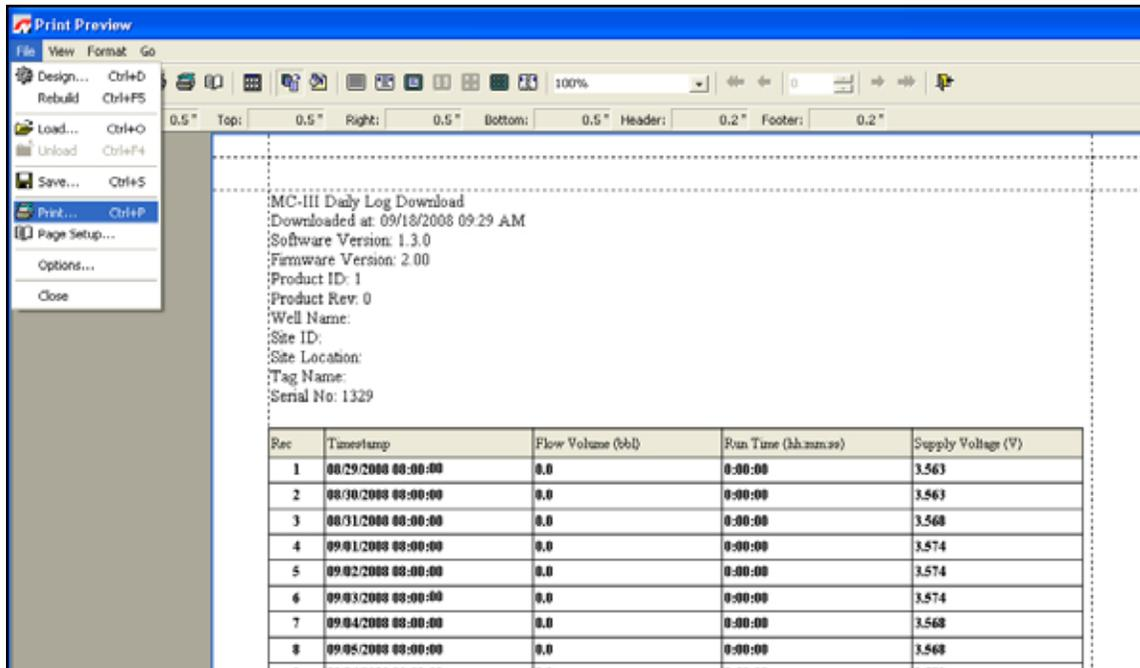
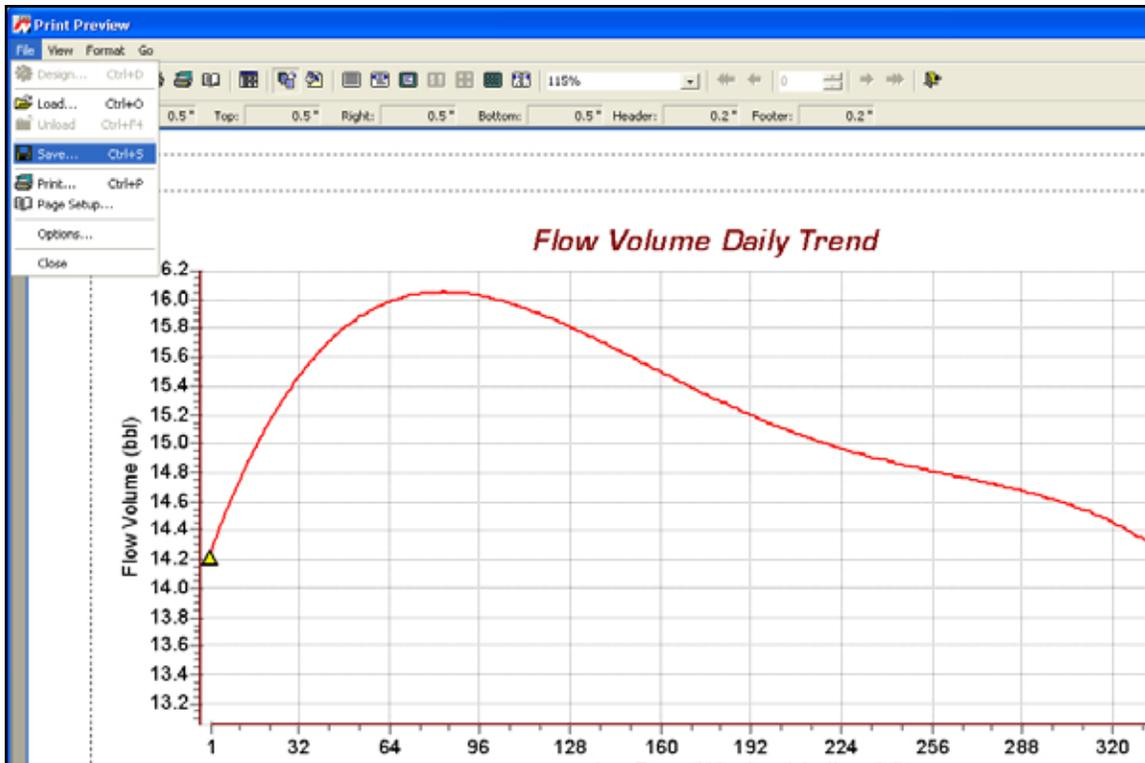
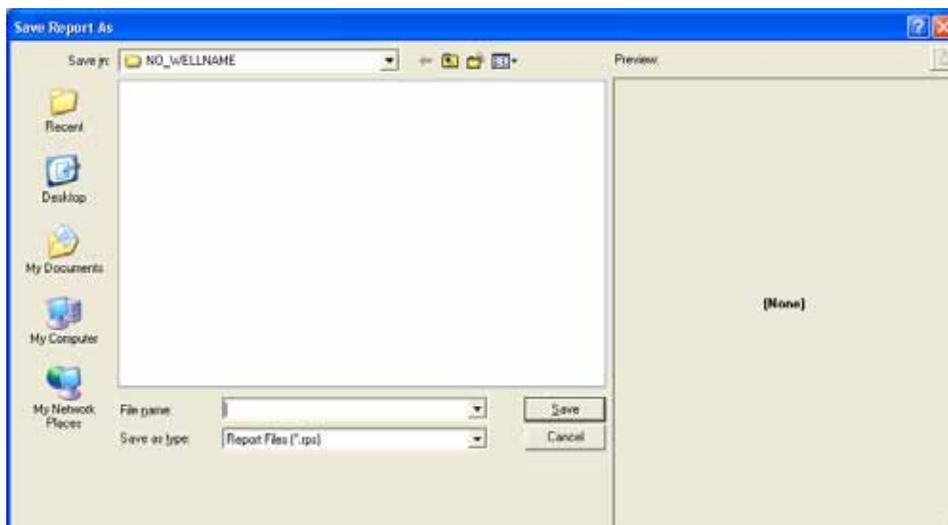

Figure 5.7—Print preview, tabular view
Figure 5.8—Print preview, trend view
Figure 5.9—Save Report As screen
A flow log can be printed and/or saved as a table (Figure 5.7, page 78) or a trend chart (Figure 5.8, page 79).
To print the report, select File>Print from the task bar (Figure 5.7).
1. Select File>Save from the task bar (Figure 5.8, page 79). A “Save Report As” window will open (Figure 5.9, page 79).